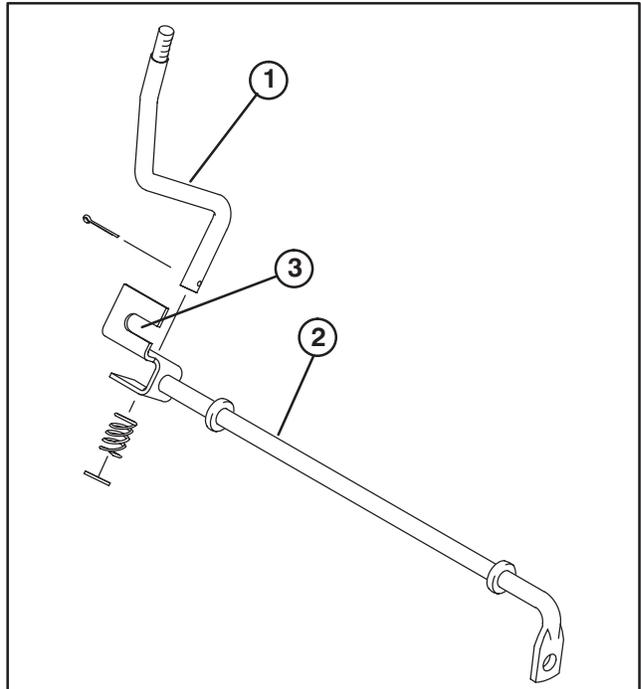

Figure 4
9. Assemble new rod lever, spring and flat washer to rod assembly with cotter pin as shown in figure 4. Rotate lever into slot in rod assembly bracket while assembling.